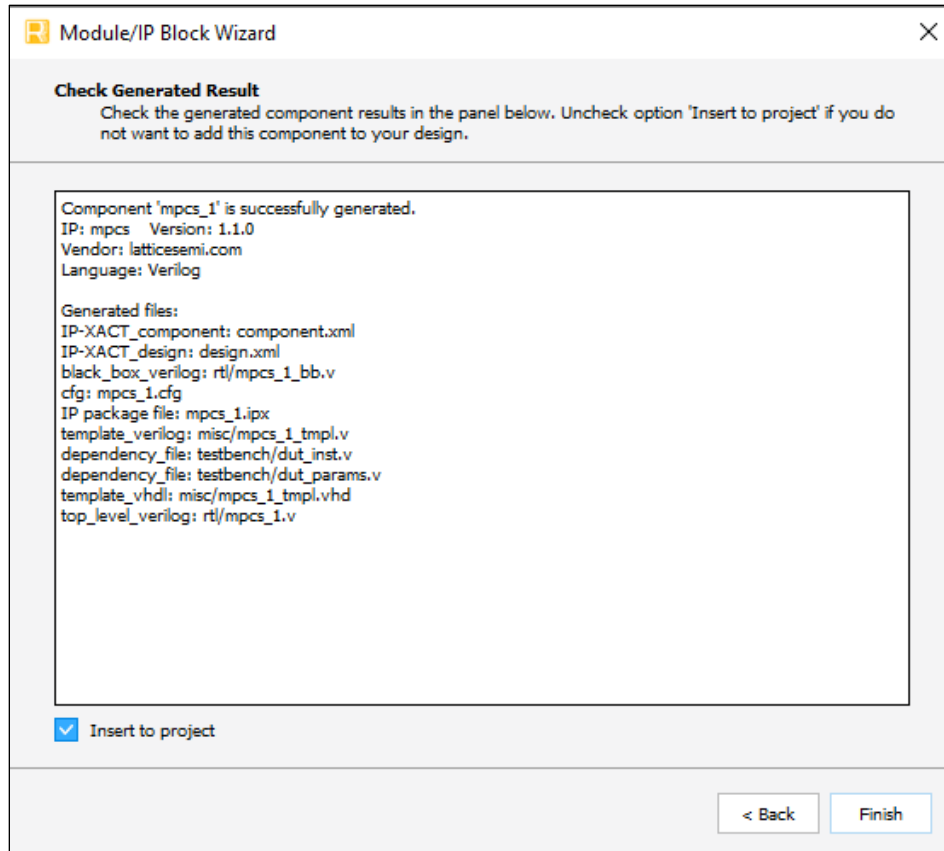

Figure 7.3. Check Generated Result
- Click **Generate**. The **Check Generated Result** dialog box opens, showing design block messages and results, as shown in Figure 7.3.